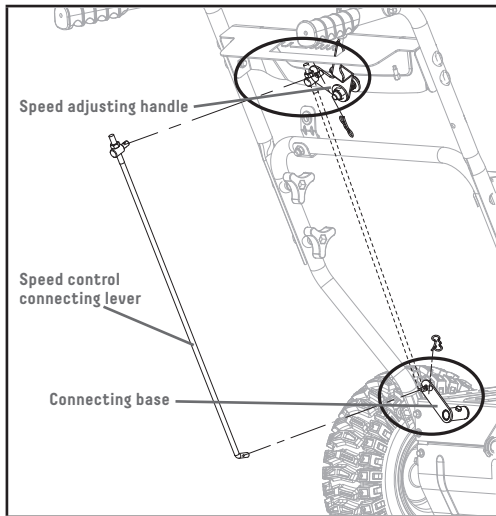
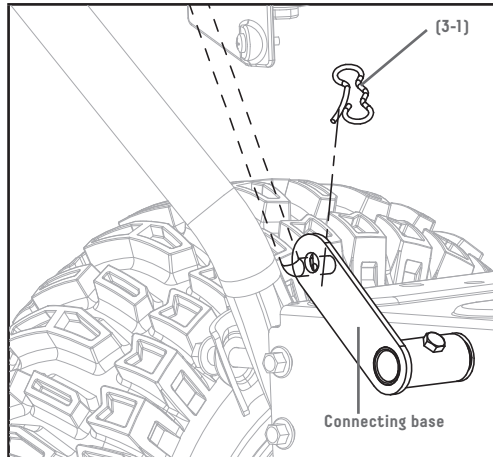

Figure 6A
Figure 6B
1. Connect the connecting lever (Fig. 6A) and connecting base with cotter pin (3-1). (Fig. 6B)